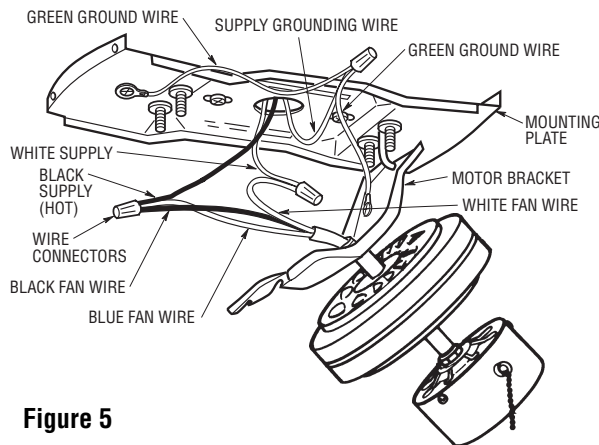

Figure 5
- 2. Connect the fan motor white wire to the supply white (neutral) wire using a supplied wire connector (Figure 5).
- 3. Connect the fan motor black wire and blue wire to the supply black (hot) wire using a supplied wire connector (Figure 5). Your fan is now wired to be turned on and off from the fan switch. After connections have been made, turn leads upward and carefully push leads into the outlet box, with the white and green leads on one side of the outlet box and the black and blue leads on the other side of the outlet box.